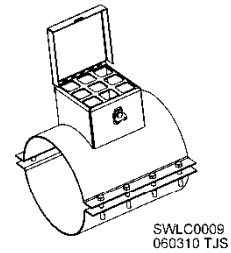

Fig. 66 – View port
- b. View ports can be added “downstream” of grain inlets to check grain flow. See Fig. 66.